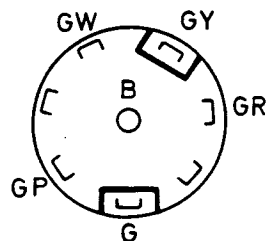

Fig O5.34
(2) Refer to Fig O5.34. Reconnect the electrical leads to the periphery of the switch.
(3) Fit the switch into the panel and secure with the wave washer and lock ring.
(4) Fit the hazard warning switch bulb and screw on the knob.
(5) Replace the panel and secure with the self tapping screws.
(6) Reconnect the battery.